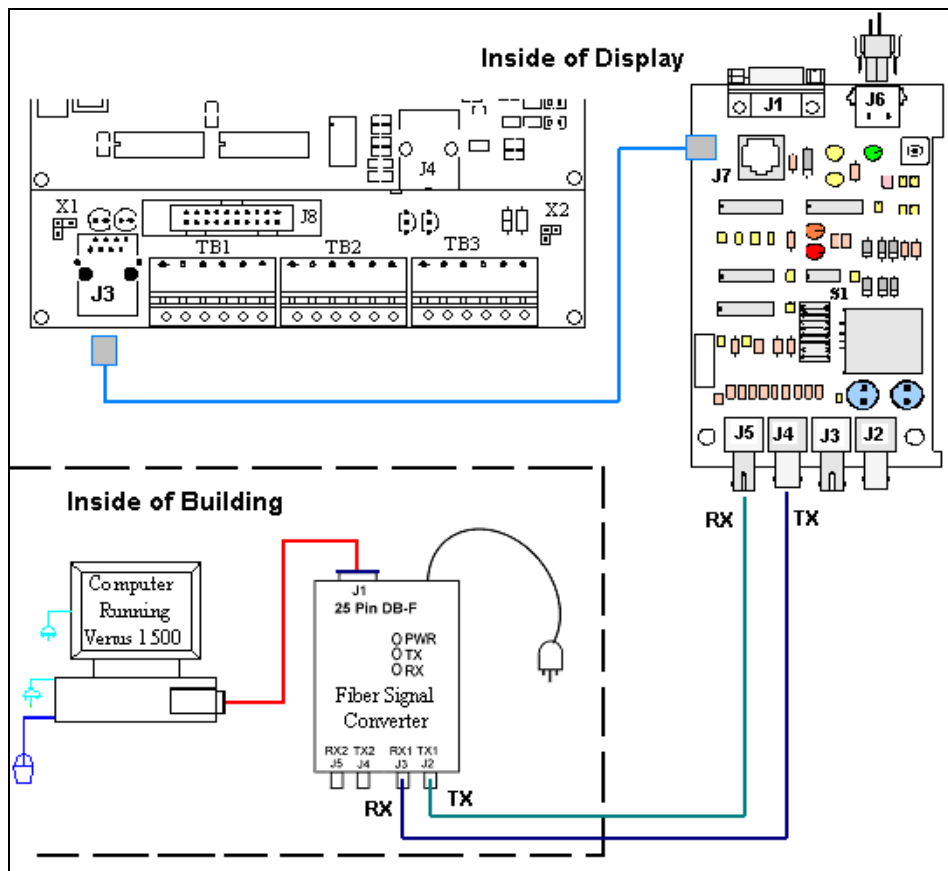

Figure 30: Fiber Signal Connections
2. When connecting directly to the fiberboard in the display, route the cable to the fiberboard and connect the two fibers to J5 and J4. Always connect transmit (TX) at the signal converter to receive (RX) on the display's fiberboard, and RX to TX as shown in **Figure 30** and **Drawing B-177662**.